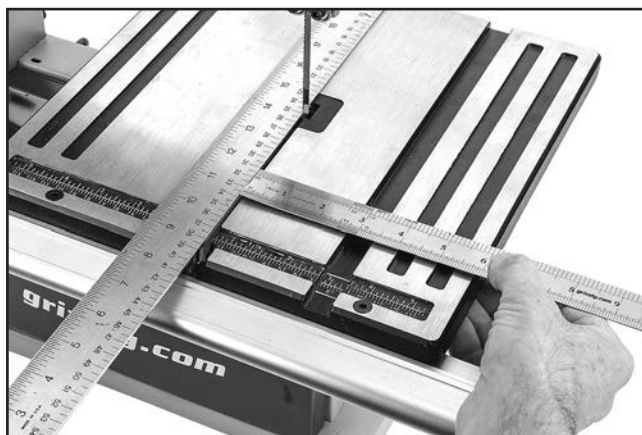

Figure 29. Placing a straightedge along the blade and measuring to the miter slot.
3. Place an accurate straightedge along blade. The straightedge should lightly touch both front and back of blade (see **Figure 29**).
4. Use fine ruler to measure distance between straightedge and miter slot at front and back of table (see **Figure 29** on **Page 24**).